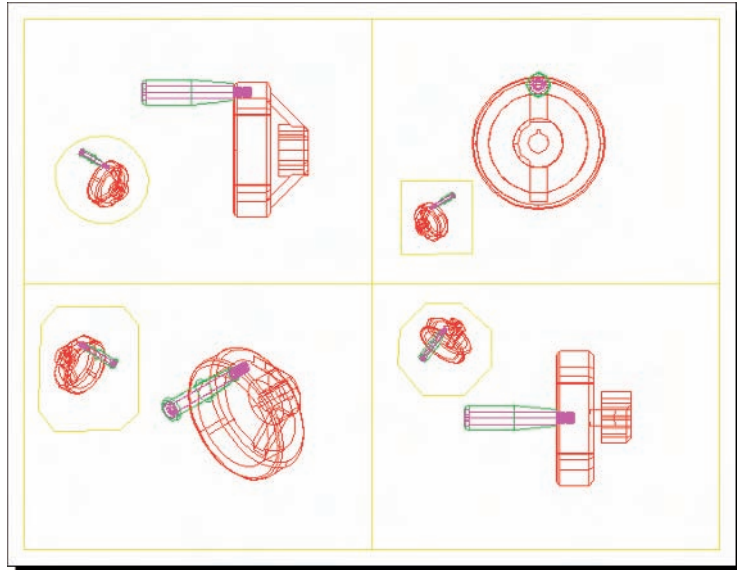

Fig. 20.11 Polygonal viewports
Polygonal viewports (Fig. 20.11)
10. Repeat in each of the viewports with different shapes of polygonal viewport outlines (Fig. 20.11).